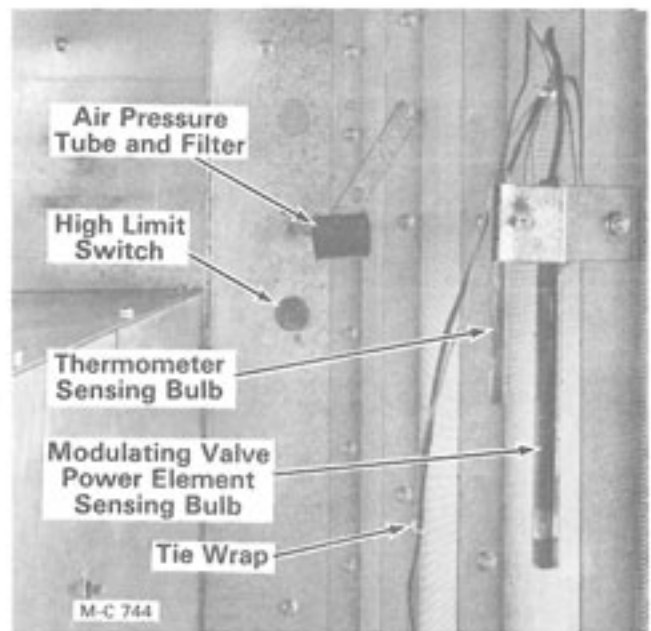
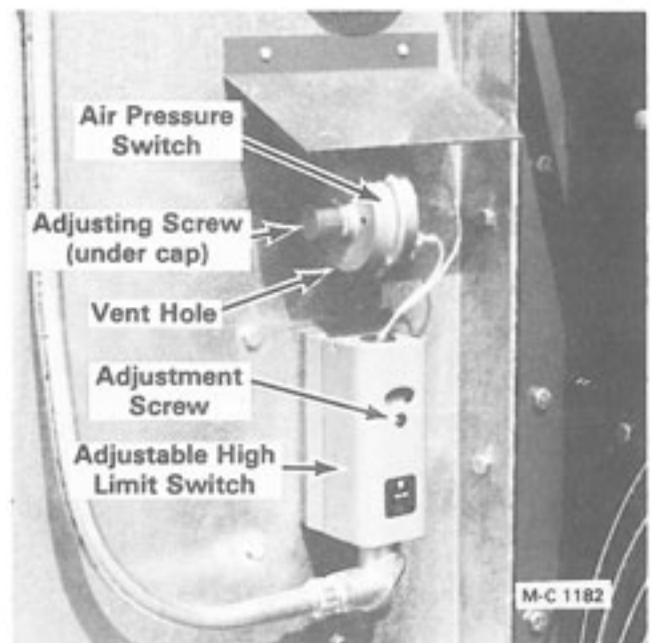

Figure 36
Figure 37
6. Remove the air pressure switches and clean the tube and filter, see Figure 36. Be sure the $\frac{1}{8}$ " vent hole in the bottom of the air pressure switch is open, see Figure 37.